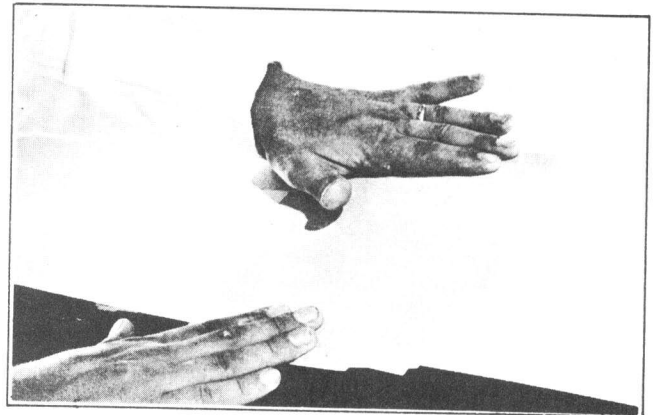

Figure 4-9. Taping on Backing
4. Cover a piece of cardboard or aluminum with cellophane and tape it to the outside surface with the cellophane facing toward the hole. Aluminum is used as backing where contour is present. The aluminum should be shaped the same as the contour. See Figure 4-9.